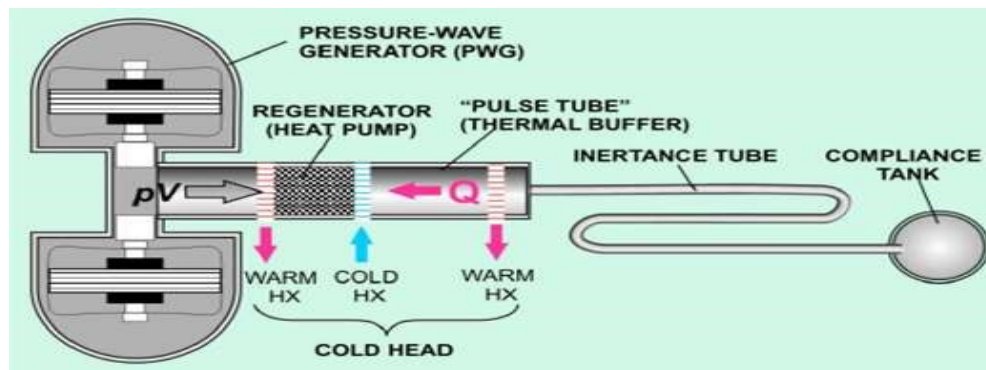

Figure 7: Schematic cross section of Cryocooler
2. With each forward stroke of the piston's helium gas moves through the first warm heat exchanger (the "aftercooler") where heat is removed. Helium is next forced through the regenerator, which precools the gas before it reaches the cold heat exchanger (see Figure 7).